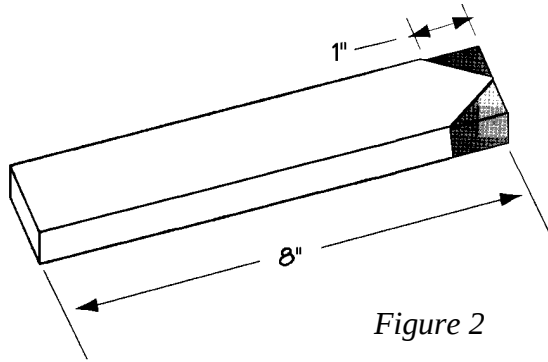

Figure 2
1. Cut 23 pickets (C) from 1 x 2 pine, each measuring 8 inches long.
2. Cut the corners off each of the 23 pickets (C), as shown in *Figure 2*.